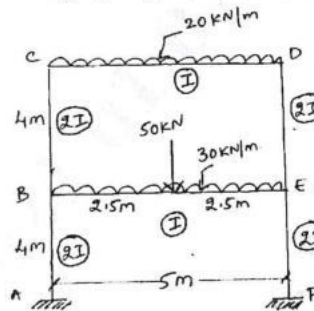

Fig. Q6
- 6 Analyze the portal frame shown in Fig. Q6 by Kani's method. Draw BMD. (16 Marks)